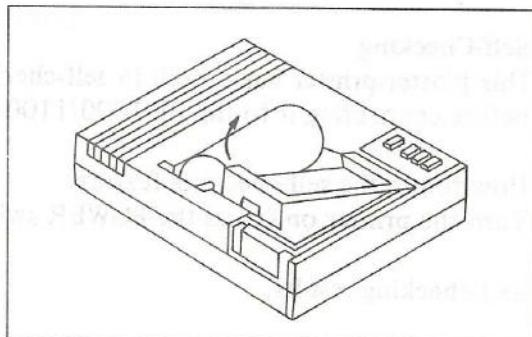
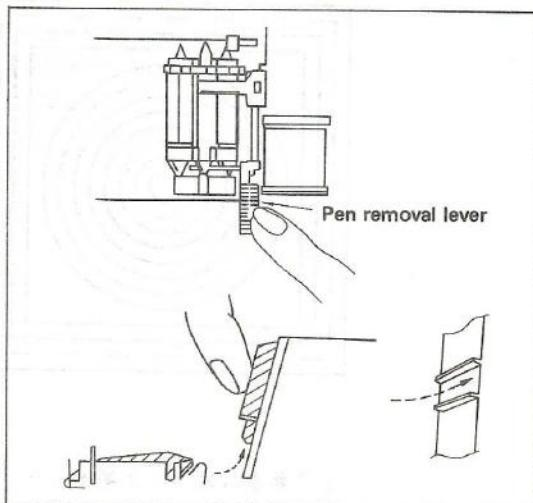

Fig. 5
Fig. 6
- (1) Turn the printer on and put it in the local mode.
- (2) Remove the top cover by raising the left end as illustrated in Figure 5.
- (3) Press the PEN CHANGE key to move the pen holder assembly to the right end beyond the plotting area. Then, continued to press the key until the pen to be replaced comes to the top.
- (4) Pull the pen removal lever toward you to release the top pen. Pull the pen toward you while holding it with your index finger and remove it, using the groove in the case as a guide. (Figure 6)